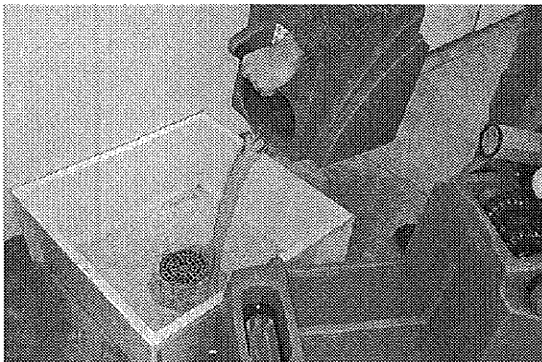

FIG. 13
1. Empty and rinse out recovery tank thoroughly (Figure 13).